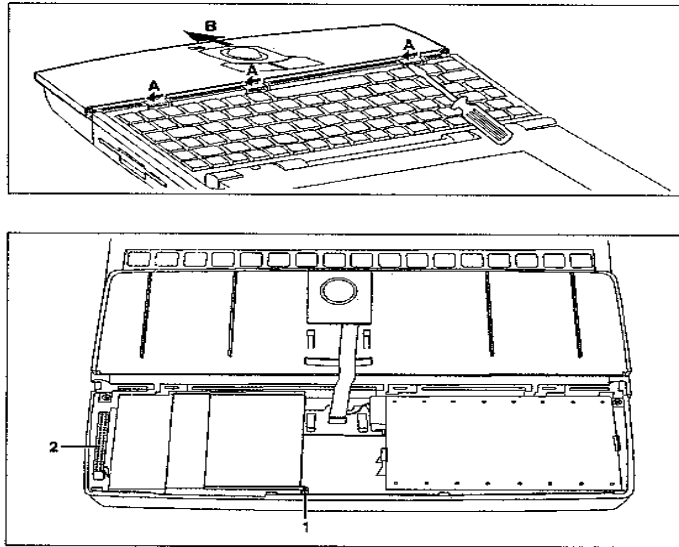

Figure7-3-1. Hard Disk Drive Disassembly/Reassembly
2. Using a pointed tool, slide the three safety catches toward the right of the notebook (Figure 7-3-1 Arrow A) if you are facing the front of the notebook. Then slide the cover plate downward (Figure 7-3-1 Arrow B) until it is free and carefully put the plate aside without pulling the cable between the trackball and system board.
3. Remove the screw (Figure 7-3-1 #1) securing the hard disk to the chassis.
4. Unplug the hard disk cable (Figure 7-3-1 #2) and lift the hard disk drive free.
1. Fit the hard disk back into place and connect the hard disk cable (Figure 7-3-1 #2)
2. Secure the hard disk to the chassis with one screw (Figure 7-3-1 #1)